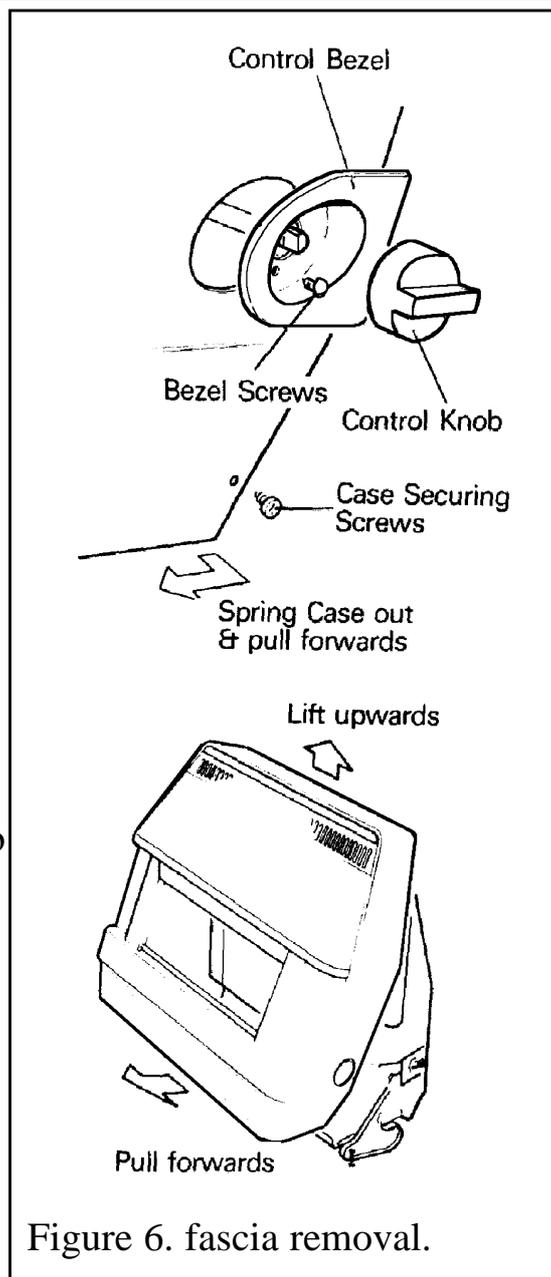

Figure 6. fascia removal.
5.3.5. Remove the control bezel by unscrewing two screws (See figure 6).
5.3.6. Detach the fascia by removing the screws at the fascia sides (See figure 6).
5.3.7. Pull the bottom of the fascia forward while springing the bottom corners outward to clear the fixing brackets. Lift the fascia upward and forward to clear (See figure 6). Place carefully to one side.